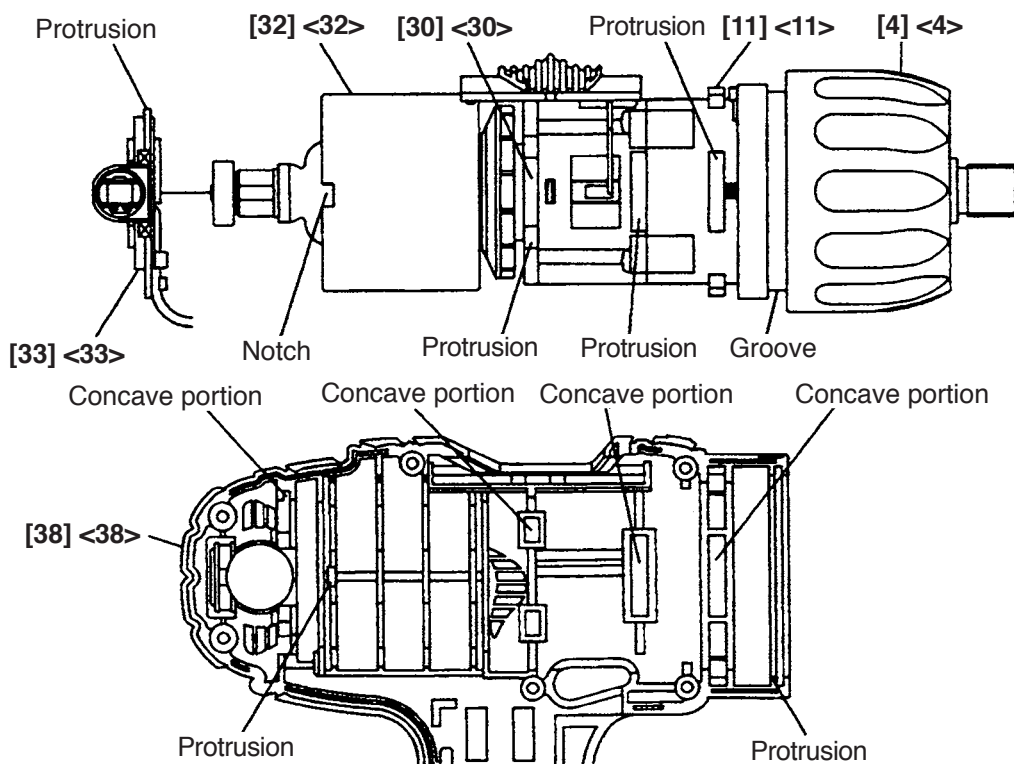

Fig. 17
(6) Reassembly of the main unit
- (a) Mount the power supply unit and the drive unit that were reassembled in the above procedure to Housing (A) [38] <38>. At this time, align the protrusions of the Brush Block [33] <33>, Front Case [11] <11> and Motor Spacer [30] <30> with the concave portions of Housing (A) [38] <38>, the notch of the Magnet [32] <32> with the protrusion of Housing (A) [38] <38>, and the groove of the Front Cap [4] <4> with the protrusion of Housing (A) [38] <38> (see Fig. 17).